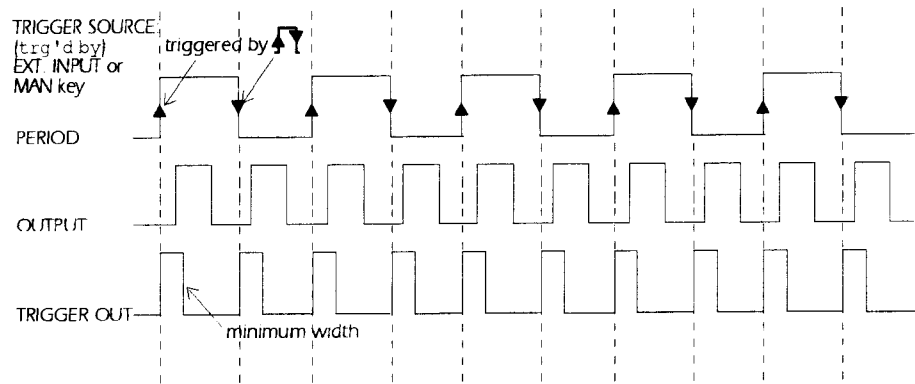

Figure 3-5. Triggering on Both Edges
- EXT INPUT (External signal) triggered by rising or falling or both edges (See Figure 3-5).